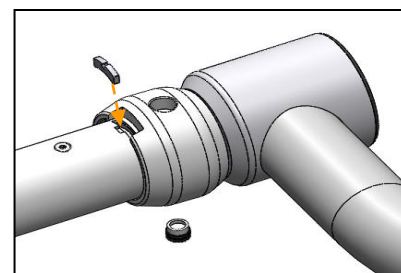

Figure 40
- Insert the segment. See Figure 40.